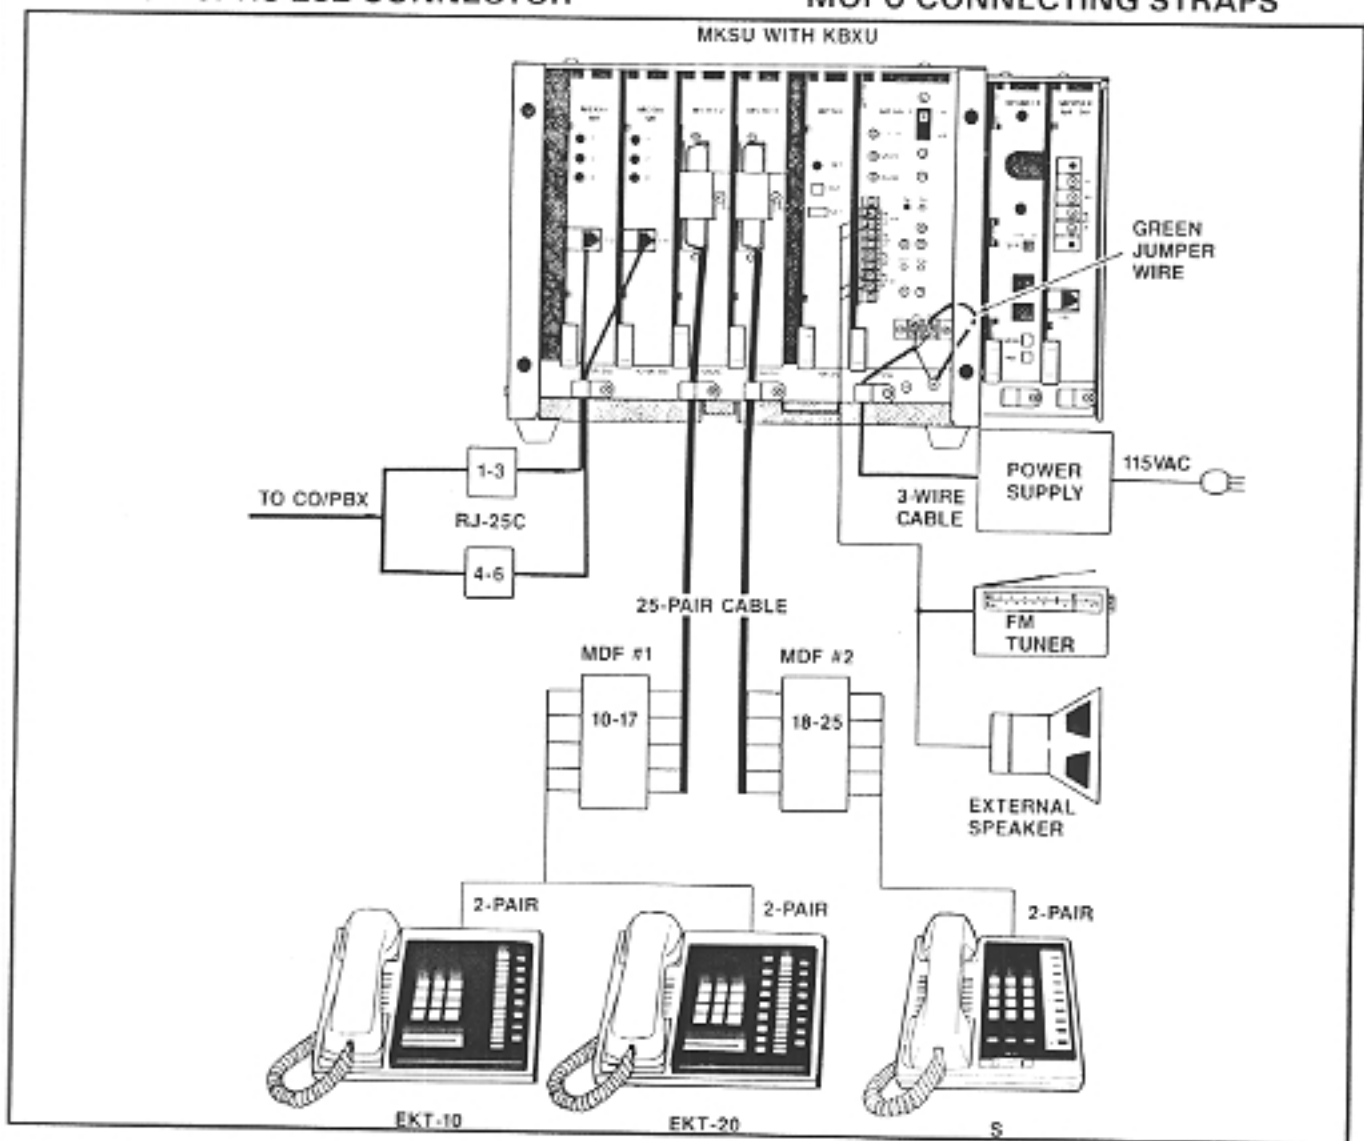

FIGURE 18—SYSTEM DIAGRAM
07.01 Two 66MI-50 split connection blocks (Figure 18) are recommended as the fully-equipped **Strata VI** main distribution frame (MDF).
07.04 Refer to Figure 18 and route the cable from #1 MSTU (stations 10 ~ 17) to Block 1 and the cable from #2 MSTU (stations 18 ~ 25) to Block 2.